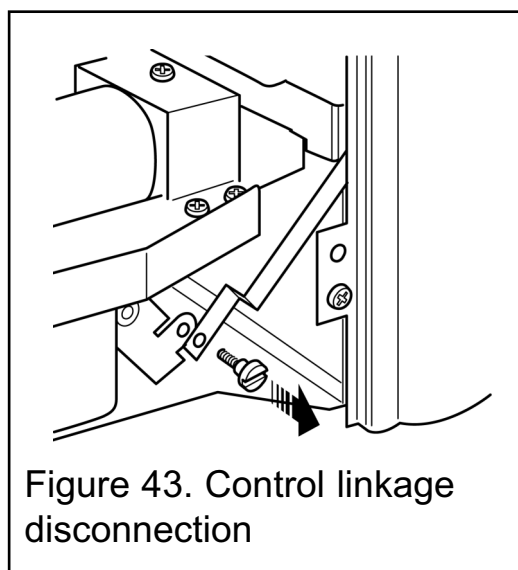

Figure 43. Control linkage disconnection
2. Remove the knurled screw securing the control linking arm to the burner (See figure 43).